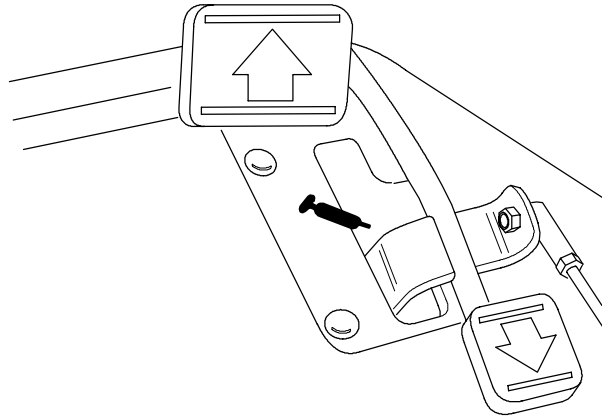

Figure 33
- Traction pedal pivot (1) (Fig. 33)